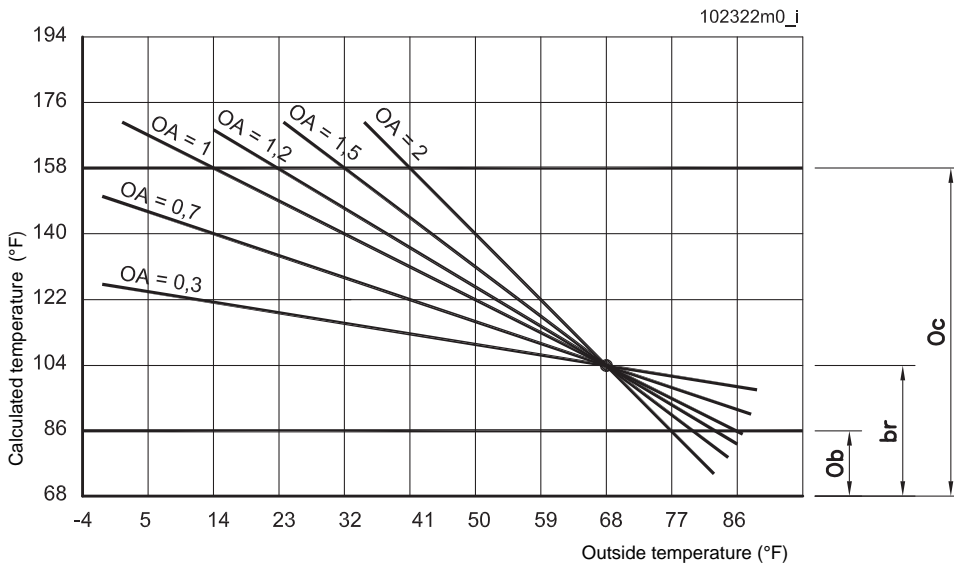

Figure 13-2 - Graph of the outdoor reset adjustment (influence of parameters “br”, “OA”, “Ob” and “Oc”)
13.17) set the **CH** parameter to 02. The system will function exactly as described in the previous “Outdoor reset adjustment” sections except that now the boiler pump will stay on permanently. The opening of the room thermostat contacts will translate into a parallel downward movement of the curve in Figures 13-2 and 13-3. The value by which the curve moves downwards can be adjusted by the